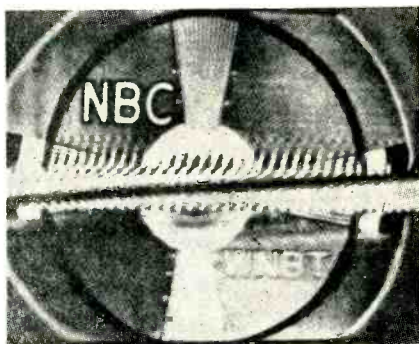

Fig. 5. Horizontal bend due to diathermy interference.
4. Diathermy or some other type of external interference which may appear at one or more points across the picture, Fig. 5.